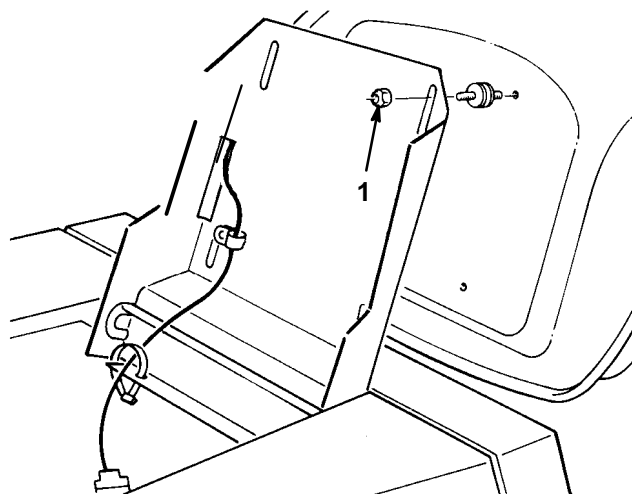

Figure 9
1. Raise the seat and loosen the lock nuts (Fig. 9).